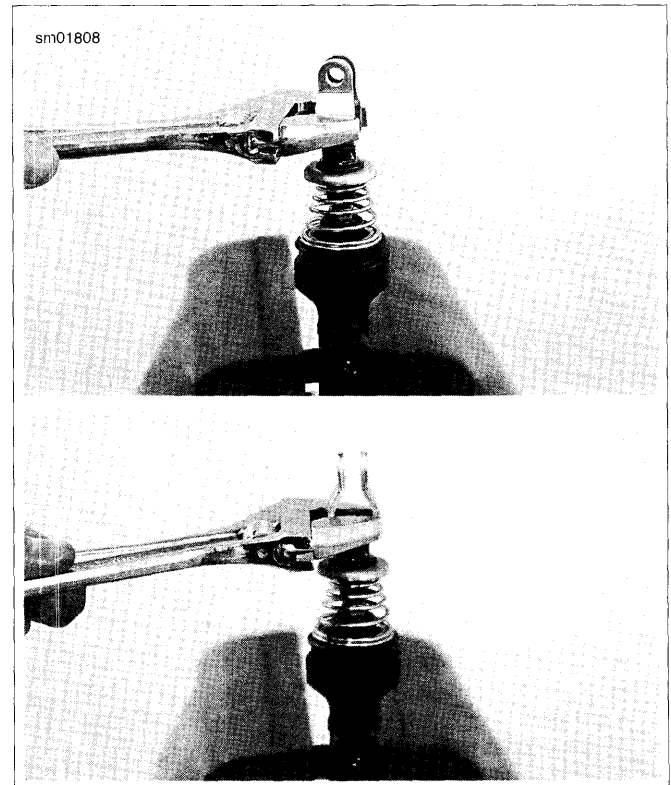

Figure 2-80. Tightening Yoke (Top: Incorrect, Bottom: Correct)
See Figure 2-80. Grip yoke by the edges with an adjustable wrench. Do not grip yoke by the flats or the yoke may become deformed.
3. See Figure 2-80. Hold yoke with an adjustable wrench. Using an open-end wrench, loosen shoulder nut. Remove yoke.
See Figure 2-80. Grip yoke by the edges with adjustable wrench. do not grip yoke by the flats of the yoke may become deformed.
14. See Figure 2-80. Holding yoke with an adjustable wrench, turn shoulder nut back against yoke. Tighten to 130-173 **in-lbs** (14.7-19.6 Nm).